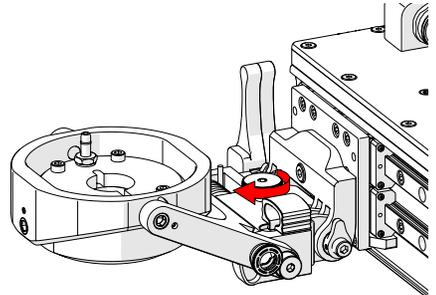

Fig. 67 - Tighten knob
2. Tighten the probe holder adjustment knob (Fig. 67).